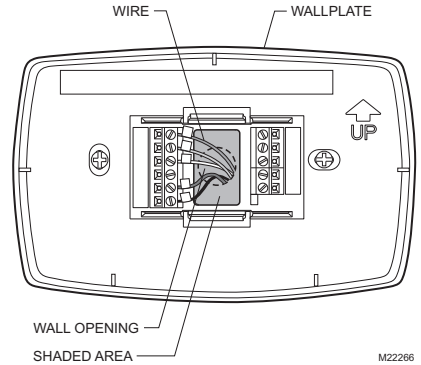

Fig. 6. Restrict wires to shaded area of wire hole.
- Push excess wire back into the wall opening and restrict wires to the shaded area. See Fig. 6.